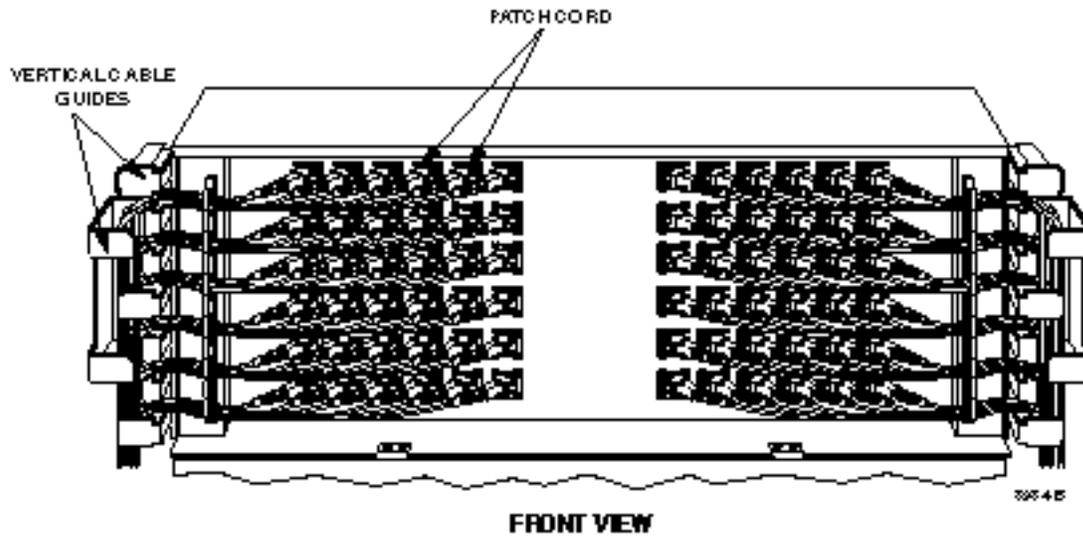

Figure 6-1. Front Side Cable Management System
6.2.1 The front side cable management system provides a means to secure and route fiber cross connect jumpers on the front side of the frame. Figure 6-1 shows the front side cable management system. It consists of vertical cable guides and a horizontal trough.